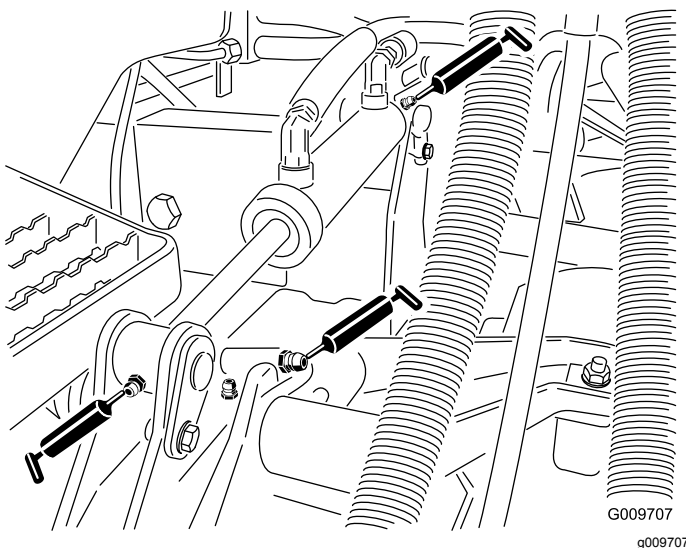

Figure 25
- Lift arm bushings (1 per deck) (Figure 25)
- Lift cylinder bushings (2 per deck) (Figure 25)